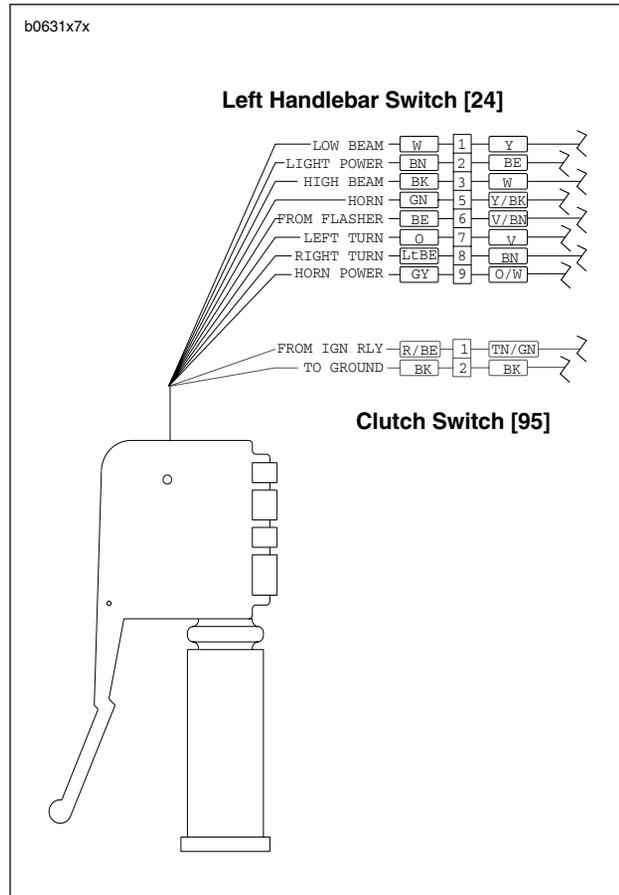

Figure 7-50. Left Handlebar Switch Connection
5. See Figure 7-50. Cut as many cable straps as necessary to access left handlebar switch connector [24] along right side frame tube. Detach connector [24] from wiring harness.